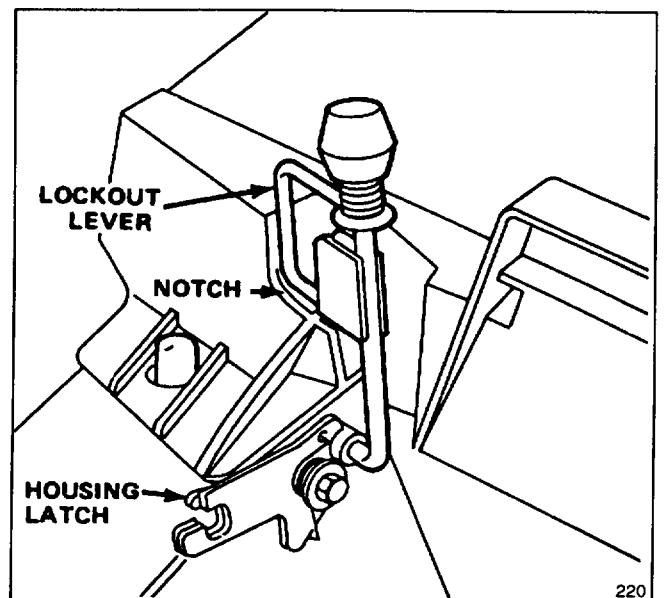

Figure 6
- Squeeze lockout lever until it clears the housing latch (Fig. 6). Then move handle rearward until lockout lever locks in notch at rear of bag door (Fig. 6). The chute door in mower housing is now open and mower is ready to bag grass clippings.